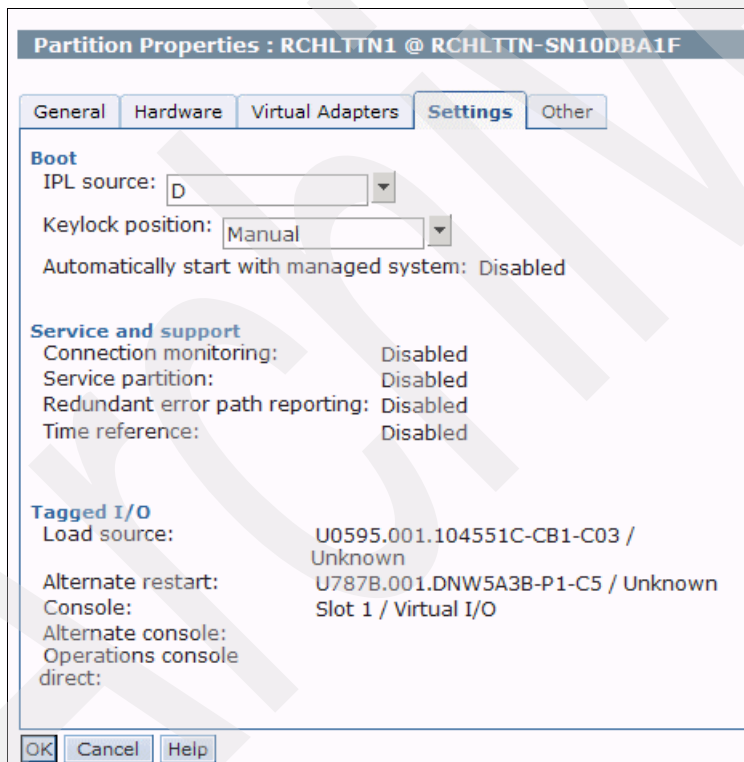

Figure 5-8 Setting the IPL type
c. On the Settings tab, for Keylock position, select **Manual** as shown in Figure 5-8.